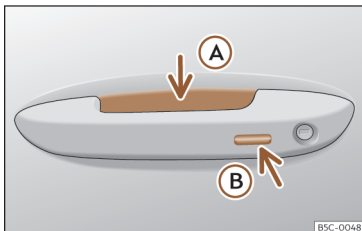

Fig. 82 Door handle: sensor surfaces
>>> Fig. 82
»» **Fig. 82 A** (arrow) of the handle and the vehicle unlocks.
»» **Fig. 82 B** (arrow) on one of the front door handles. The door that is used must be closed.
- Touch (*once*) the sensor surface»» **Fig. 82 B** (arrow) on one of the front door handles. The vehicle locks with the “Safe” security system»» page 104 . The door that is used must be closed.
- Touch (*twice*) the sensor surface»» **Fig. 82 B** (arrow) of one of the front door handles to lock the vehicle without activating the “Safelock” security system»» page 104 .
- Push the central locking button  on the remote control and touch the locking sensor surface of the driver door handle >>> **Fig. 82 B** within the following 5 seconds. Do not grasp the door handle; otherwise the vehicle will not unlock. Deactivation is also possible if the vehicle is locked through the driver's door lock.
To close all the electric windows and the sunroof using the **comfort function**, keep a finger for a few seconds on the locking sensor surface >>> **Fig. 82 B** (arrow) of the door handle until the windows and roof have closed.
The sensor surfaces on the door handles could engage if hit with a water jet or high pressure steam if there is a valid vehicle key in the proximity. If at least one of the electric windows is open and the sensor surface >>> **Fig. 82 B** (arrow) on one of the handles is activated continuously, all windows will close.
- **OR:** touch the sensor surface on the outside of the door handle twice >>> Fig. 82